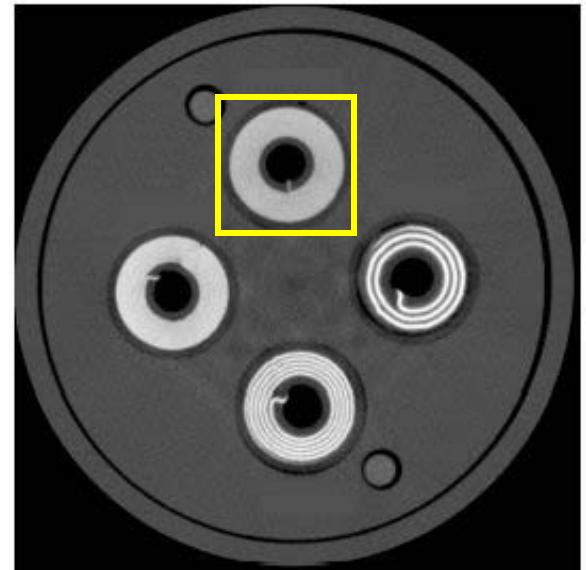

Figure 7-111
- 15.) From thumbnail of the Phantom, choose a 50-slice ROI. Go to the plane that shows all four coils. Adjust the ROI to select the finest coil (Figure 7-111).